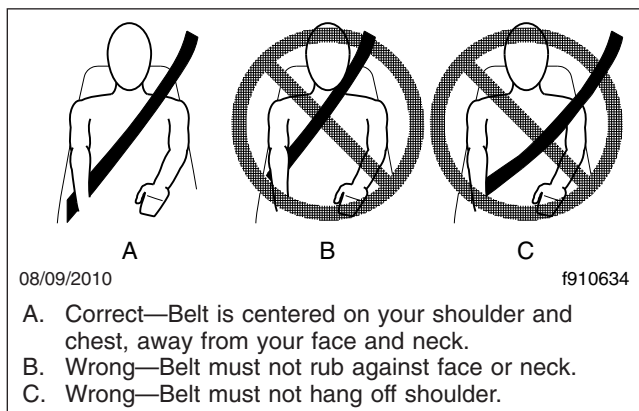

Fig. 6.9, Proper Shoulder Strap Fit
5. Position the shoulder strap diagonally across your chest with the adjustable D-loop bracket (if equipped). The shoulder strap must be centered on your shoulder and chest, away from your face and neck. See Fig. 6.9. If desired, engage the Komfort Latch or Sliding Komfort Latch as follows.
5. Position the shoulder strap diagonally across your chest with the adjustable D-loop bracket (if equipped). The shoulder strap must be centered on your shoulder and chest, away from your face and neck. See Fig. 6.9.